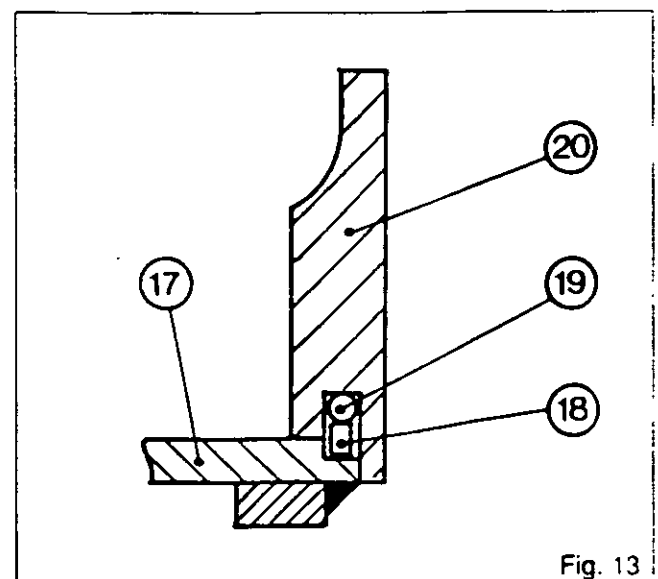
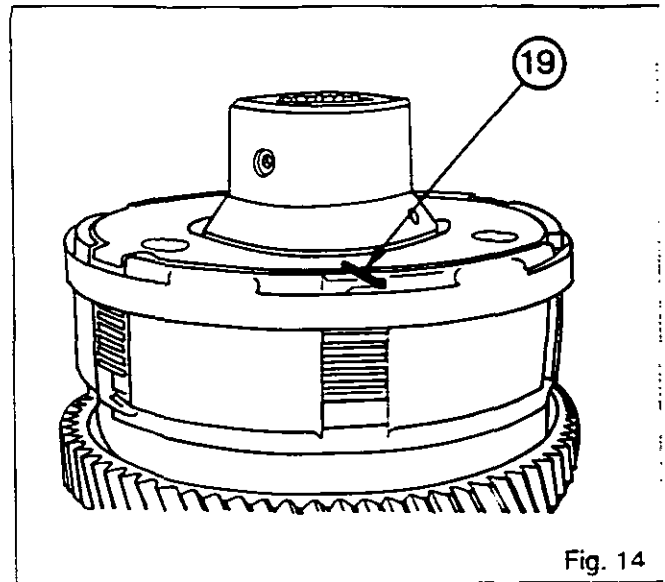
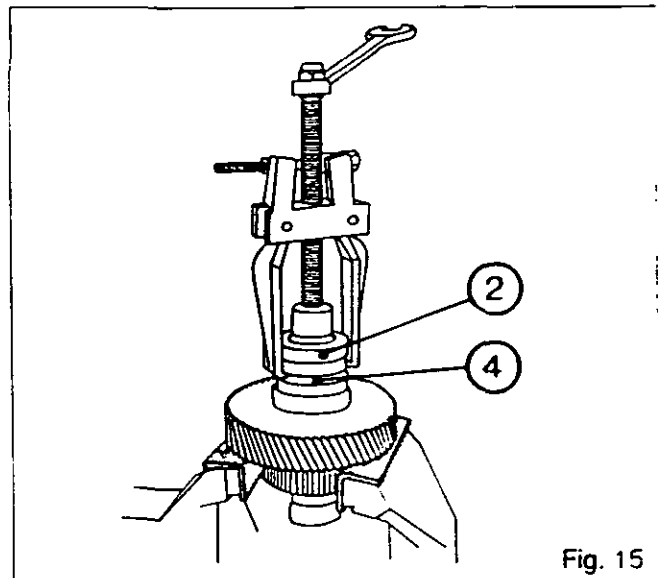

Fig. 13
Fig. 14
Fig. 15
48. Fit the retaining ring (19).
**Note :** *The retaining ring must be fitted between the cover (20) and the circlip (18) (Fig. 13). After fitting, bend back the end of the retaining ring (19) (Fig. 14).*
50. Lubricate and fit the O-rings (3) and (6).
51. Remove the bolts (16).
52. Remove the clutch housing (15), the inner plates (17) and the outer plates (14).
**Assembly A :** *3 inner plates, 3 outer plates and 2 spacers (28) and (29) for 3050 - 3060 - 3065 tractors.*
**Assembly B :** *4 inner plates, 4 outer plates and 1 spacer (28) for 3070, 3080-3095.*
53. Place the support housing (9) in a vice.
54. Remove the O-rings (3) and (6).
55. Remove the circlip (1).
56. Extract the ball bearing (2) with the sleeve (4) (Fig. 15).